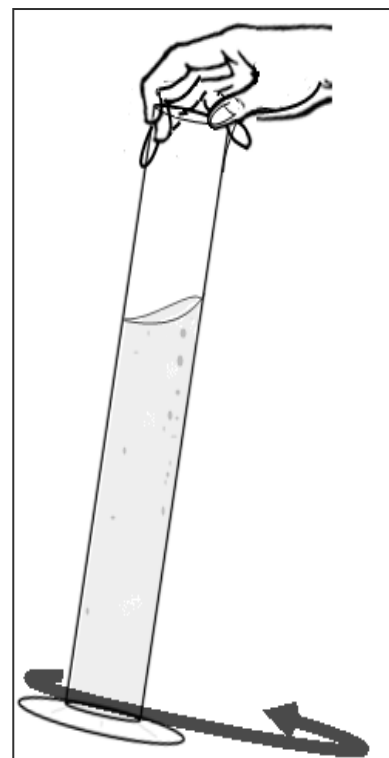

Figure 13
7. Make sure the solution you gathered does not have excessive amount of bubbles. To release excess amount of bubbles from the solution gently tap the Hydrometer Cylinder or gently swirl the entire Hydrometer Cylinder until bubbles have been released from the solution (Figure 13).